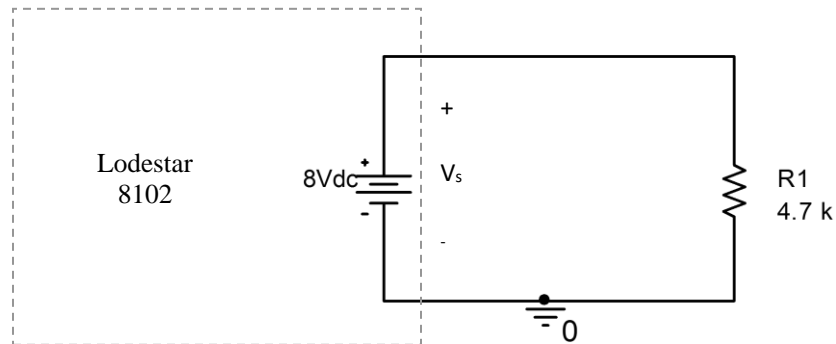

Figure 5: Series circuit for measurements
Our first circuit will be a simple series circuit in which the source voltage, V_s , the resistor voltage, V_{R1} , and their corresponding current will be measured. The current will then be checked using Ohm's Law. First assemble the circuit shown in Figure 5.
1. For the circuit in Figure 5, use the DMM to measure V_s and write this value on the data sheet. This value is the source voltage. Since the meter on the power supply is difficult to read accurately, it is a good idea to always measure the source voltage so that you know the circuit input. If the voltage value was not exactly 8 V, use the FINE knob and the DMM to get as close to 8 V as possible.